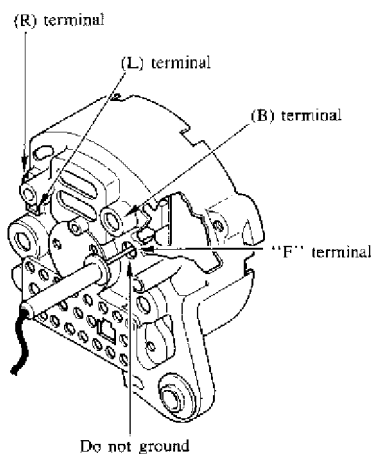

Fig. 2: Location of "F" Terminal
3. Insert volt meter between "F" terminal and nearest ground point (Fig. 2).